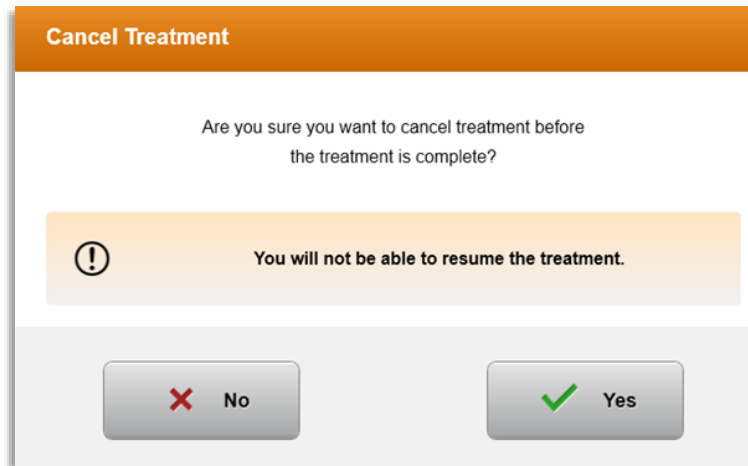

Figure 3-28. Confirm Cancel Partial Treatment
- A warning pop-up will appear when “Cancel treatment” is selected mid-treatment as shown in Figure 3-28.